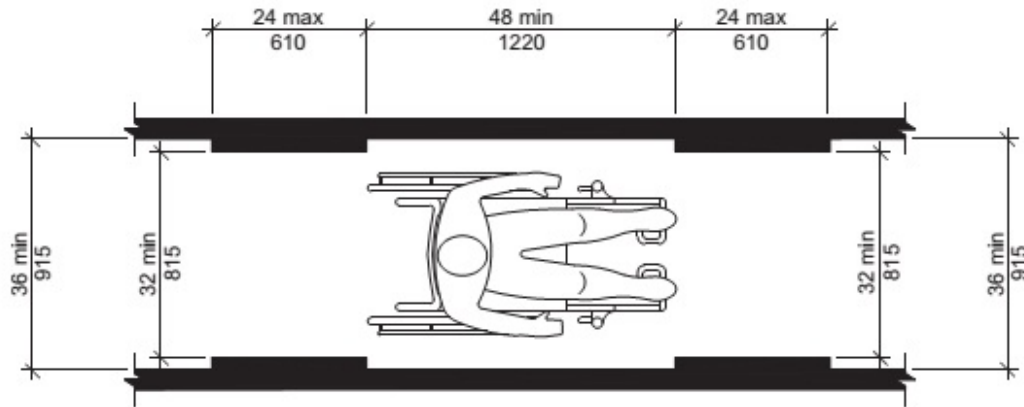

FIG. 403.5 CLEAR WIDTH OF AN ACCESSIBLE ROUTE
- Shall be 36 inches minimum, however the clear width shall be permitted to be reduced to 32 inches minimum for a length of 24 inches maximum, provided the reduced width segments are separated by segments that are 48 inches minimum in length and 36 inches minimum in width, as shown in Figure 403.5: